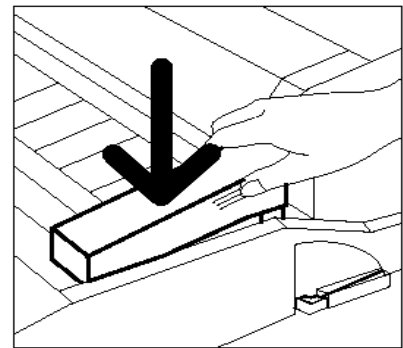

Figure 31: Installing the Fuser Oil Cartridge
- 10** Align the cartridge in the proper position on the Paper Path Module. Press it carefully into place, as illustrated in Figure 31.